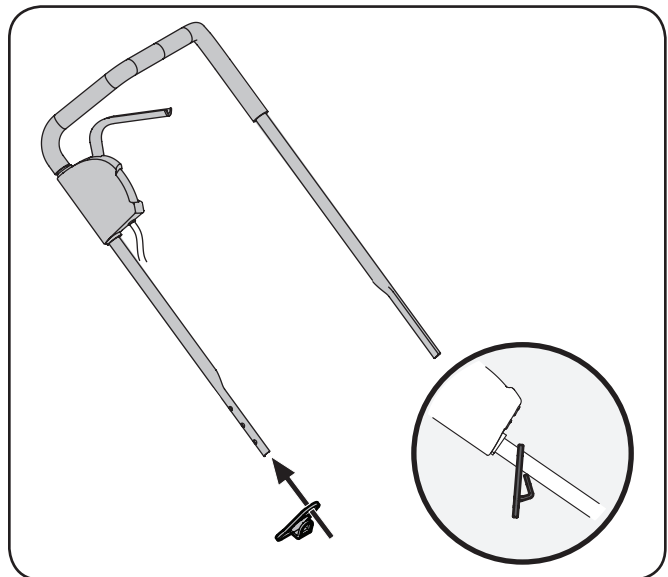

Figure 3-2
2. Slide the cord retainer (if packed separately) onto the right hand side of the upper handle with the motor/blade control handle. See Fig. 3-2.